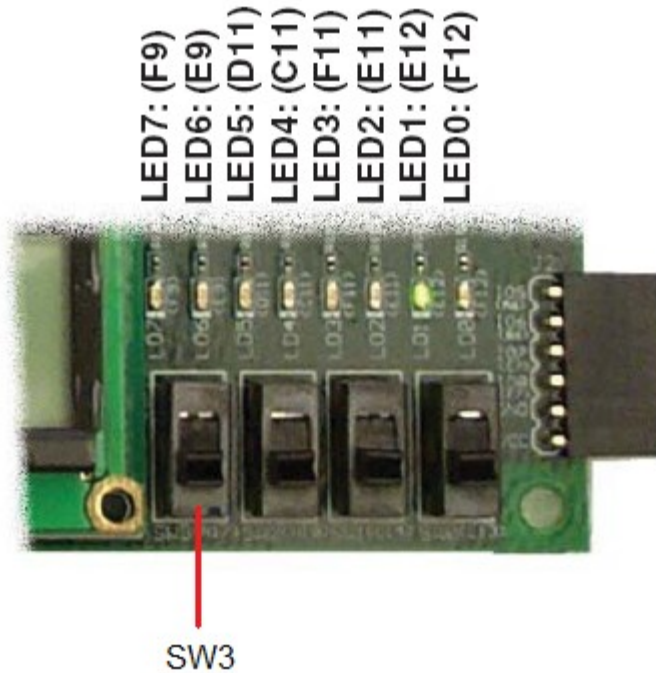

Fig. 4. Leds associated to the output of the multiplier and the operation control switches included in the Digilent Spartan 3E Starter board.
9. Double click **Generate Programming File**. Once a green check mark appears, double click over Configure Device (iMPACT) and follow the instructions in the wizard to program the board. Test the logic by moving switches. The switches supply the circuits input while LED0 to LED6 display the output. The binary value entered in the switches (input) will be multiplied by 5 (0xb 101) and displayed on the LED's in binary. The MSB is found on LED6. See Figure 4.